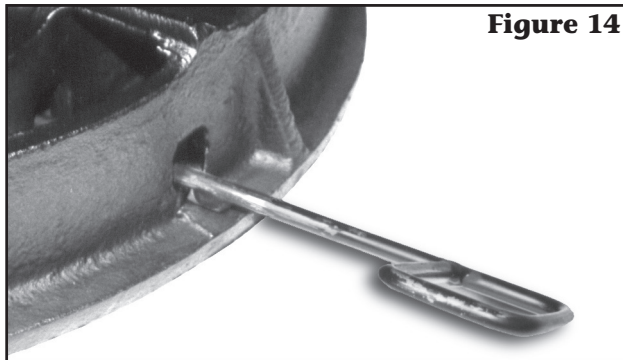
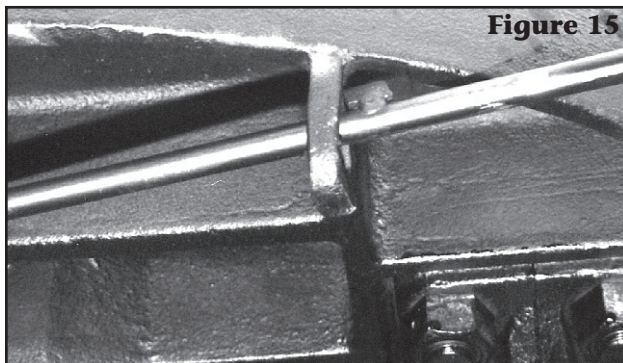

Figure 14
Figure 15
- B. Pull the primary release handle (16) out, raise it up and engage the handle lug with the top plate casting (see **Figure 15**).
- C. Pull the primary release handle (16) out further and install a small piece of 1/4" stock (not supplied) between the handle lug and the casting.
- E. If the 1/4" stock does not drop out, go back to **Step 6** and bend the release arm (15) slightly in the opposite direction.
To uncouple the lock tester, pull the secondary lock release handle (9) out, raise it up and engage the handle lug with the top plate casting (**Figure 14**). Then, pull the release handle (16) out and raise it up and engage its handle lug with the top plate casting (**Figure 15**). This will retract the plunger (17) and hold it in so that the step in the plunger is not visible in the throat area. As the kingpin on the lock tester is pulled out (rearward), the swinging lock (6) will open. As the swinging lock opens, it will push the plunger back slightly, causing the release handle (16) to extend outward slightly. This action disengages the release handle from its notch in the casting, allowing the release handle to move to the locked position. As the swinging lock (6) opens past the plunger (17), the plunger will extend into the throat area and become visible again.